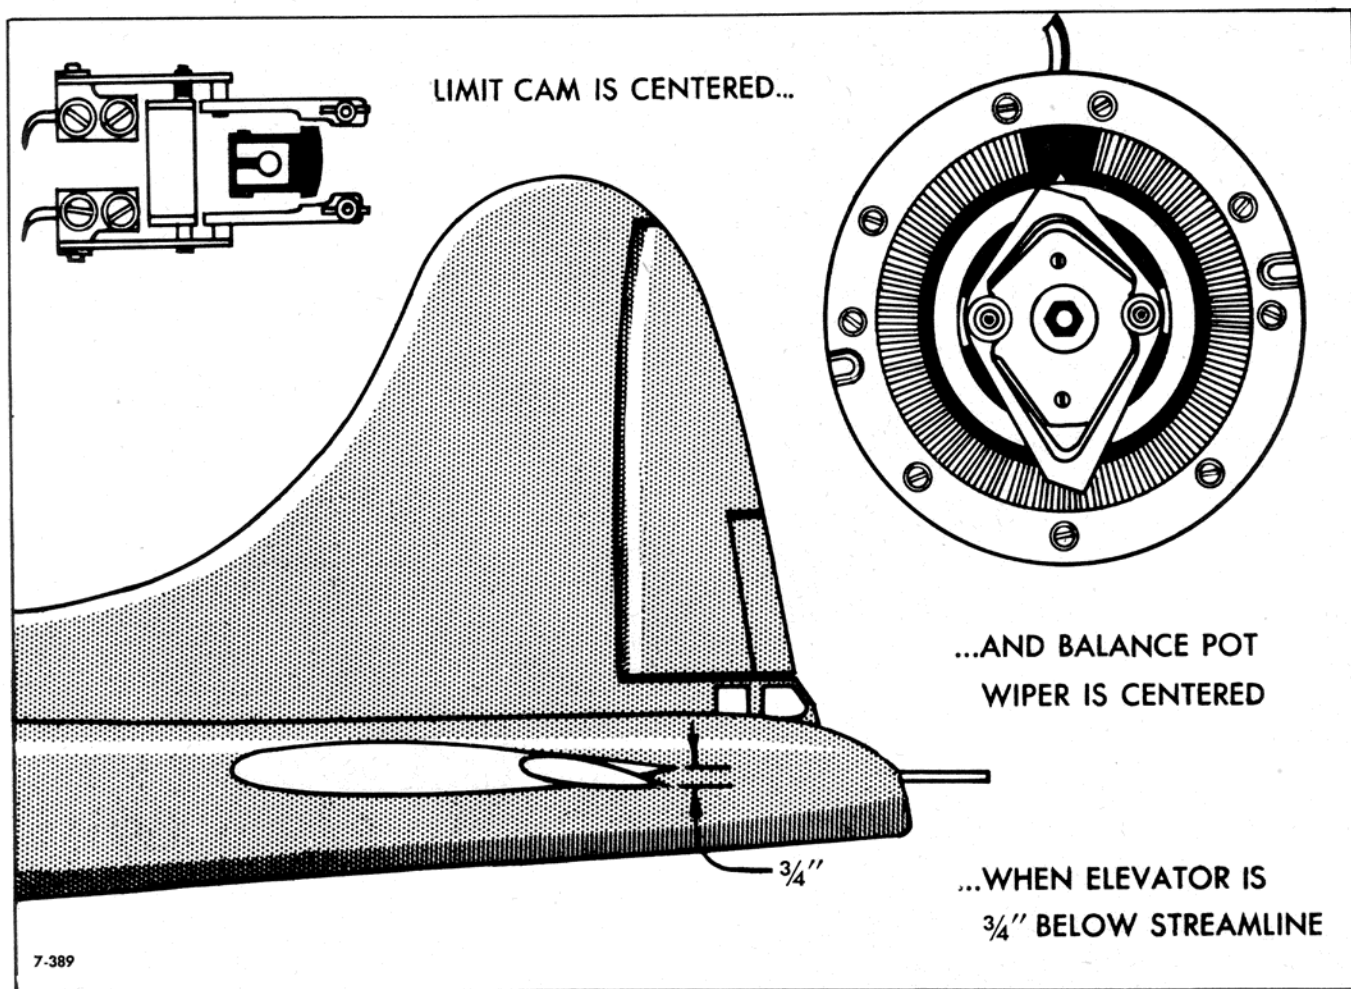

Figure 275—Level Flight Position for Elevator
h. Move ailerons and rudder surfaces to streamline position and place elevator in level flight position. Servo unit pot wipers should be in center position and limit cams should be at the midpoint of their operating range. Figure 275 illustrates level-flight elevator position for the B-17F airplanes.
(1) The balance pot is mounted at the front of the servo unit with the ends of the pot winding "up" and the center of the winding directly "down."
(2) The balance pot wiper is mounted on a friction collar which is held in place on the cable drum by a clutch friction disc. This assembly makes it possible to turn the wiper assembly by hand while the drum remains in a fixed position. Thus, no matter in what position the cable drum happens to be, the wiper assembly can be manually turned to contact the center of the pot winding.
(3) Before centering the pot wiper, make